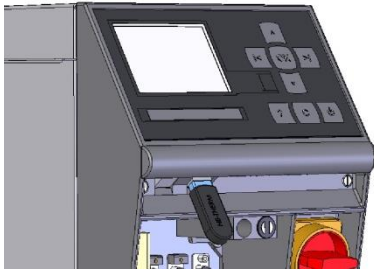

Fig. 88: Connect USB data carrier
2. Connect USB data carrier (Fig. 88).